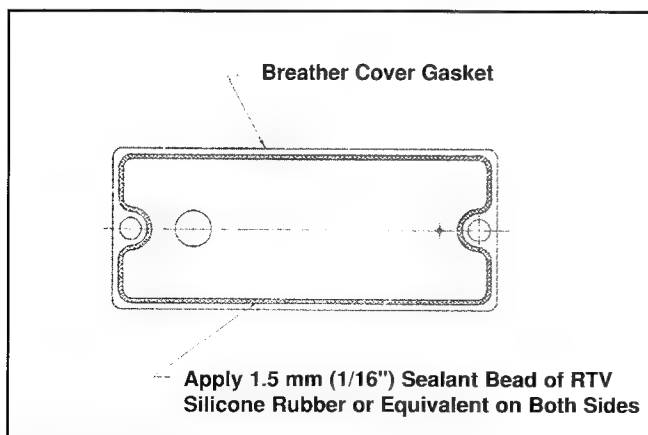

Figure 11-20. Sealant Pattern For Breather Cover Gasket.
7. Apply 1.5 mm bead of silicone sealant to breather cover gasket (both sides). See Figure 11-20.